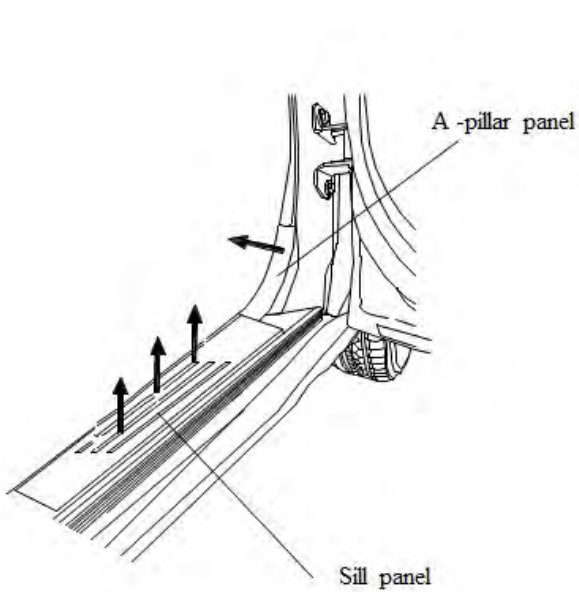
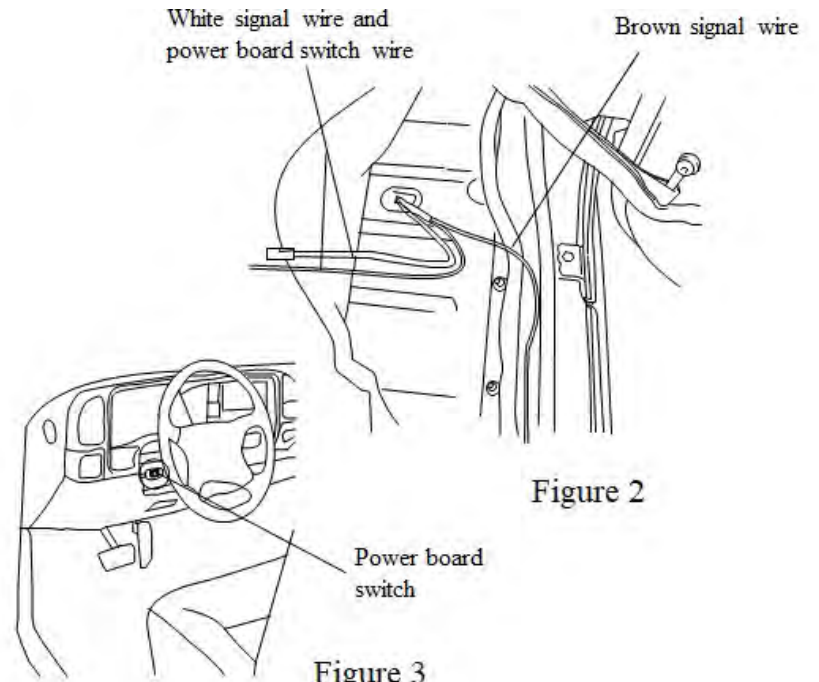

Figure 1
Figure 2
Step 2: Figure 1 is of the wiring harness and Figure 2 is the installation diagram of the vehicle when viewed from below. When installing the wiring harness, make sure the four connectors go to the corresponding motor linkage (ex. Front Right).
Step 5: Connection of the signal wire: Pry the scuff plate and kick panel on the passenger side in Figure 1. Pull the brown and white signal wire, and switch wire into the vehicle through the rubber grommet of the chassis on the passenger side in Figure 2. The white signal wire extends to the driver side of the vehicle under the carpet. Stick the power board switch to the left side under the steering wheel in Figure 3.